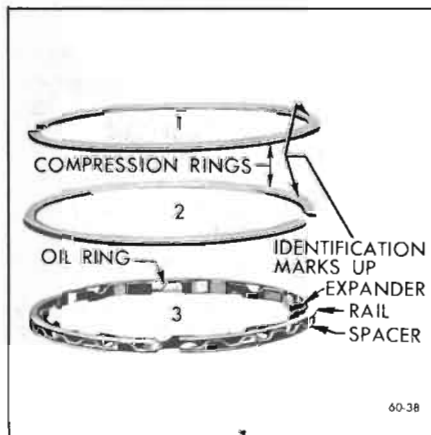

Figure 60-38—Piston Rings - V-6 Engine
8. Install piston rings as shown in Figure 60-38. Position expander ends over piston pin. Install oil ring rail spacer, and oil ring rails. Position gaps in rails "up" on same side of piston as oil spurt hole in connecting rod. Install compression rings in upper two grooves. Position ring gaps as shown in Figure 60-3.